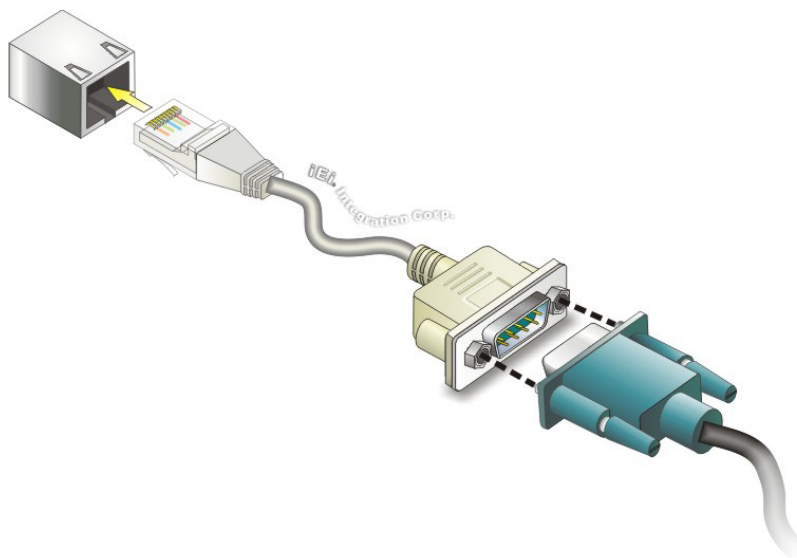

Figure 3-17: RJ-45 RS-232 Serial Device Connection
Step 2: **Insert the RJ-45 connector.** Insert the RJ-45 connector on the RJ-45 to DB-9 COM port cable to one of the RJ-45 RS-232 connectors on the TANK-871-Q170 series. See **Figure 3-17**.